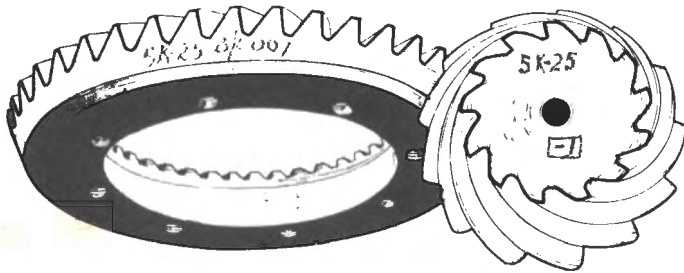

Fig. O-13
- 30 This shim size is the correct one to use if the figure branded on the hypoid is 'O'. Fig. O-13. Should the hypoid pinion have a figure other than 'O' refer to shim selection chart.